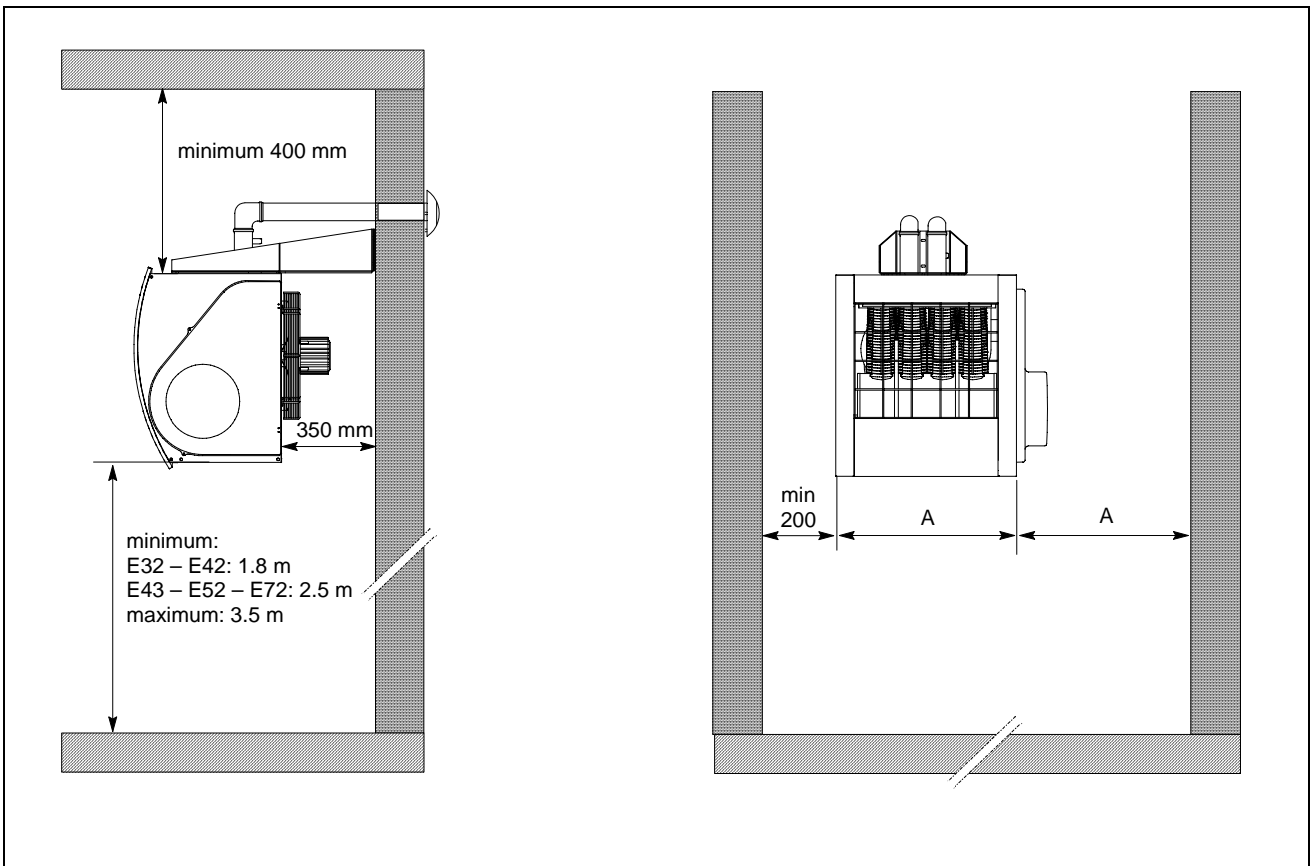

Figure 5 – CLEARANCES
- The minimum distance of the appliance from the wall behind it should be enough to allow adequate air renewal (at least 350 mm). The minimum distance from the side walls is indicated in Figure 5.
- The optimum height recommended from the ground to the base of the heater is 2.5 – 3.5 m (see Figure 5). The heater must NOT be installed at heights of less than 1.8 m from the ground (for models E 32 and E 42), or 2.5 m (for models E 43, E 52 and E 72).